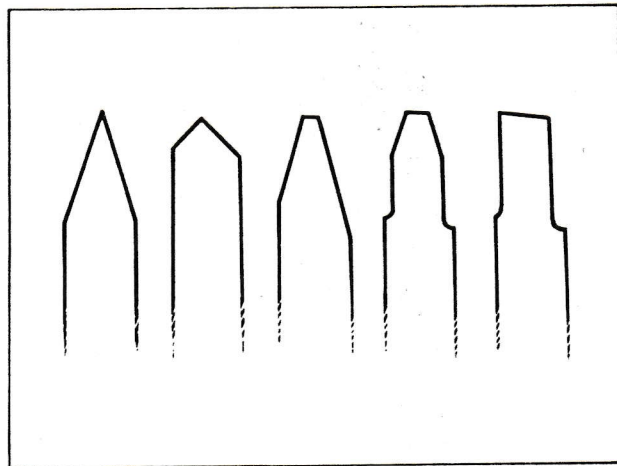

FIGURE 8
A selection of engraving cutter shapes is shown on Figure 8 and the following features are common to all.
- (1) The cutting edge is on the left-hand side of the cutter axis as shown in Figure 8.
- (2) All parts of the cutter behind the cutting edge are ground away so that as the cutter revolves in a clockwise direction viewed from above, no part of the cutter other than the cutting edge makes contact with the work. To ensure this, use the cams marked 20, 24, 32 or 40 which are provided to give four angles of clearance. For grinding slot-drill or end-mill type cutters, twin-lip and four-lip cams are provided.
- (3) The point is truncated, this may be as small as 0.001-0.002 inch but it is essential even in the case of a 'pointed' cutter.
- (4) The flat of the cutter is on the axis as on the Axiflat cutter, or the point of the cutter is on the axis as on the Rigiflat cutter.